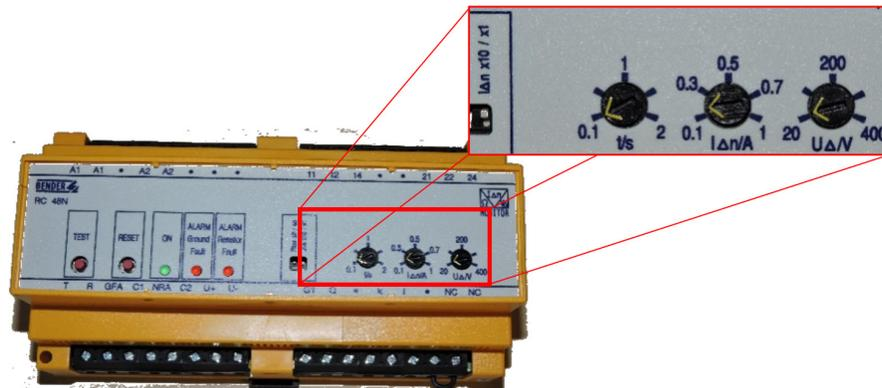

Figure 2: RC48N Ground-Fault & Neutral-Grounding-Resistor Monitor
2. Neutral voltage V_N is above the U_{Δ} neutral-voltage setting AND neutral current is below the $I_{\Delta n}$ setting. That is: $V_N > U_{\Delta}$ AND $I_N < I_{\Delta n}$ where AND means that both conditions must be met. See Fig. 2.
- Rotate the IΔn/V potentiometer to the 0.15 position, approximately 1/4 way between the 0.1 and 0.3 markings (see Fig. 2).